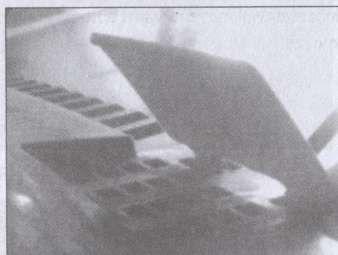

Fig. 9A
- The level indicator rises if the catcher is not full during mowing. (Fig. 9A)